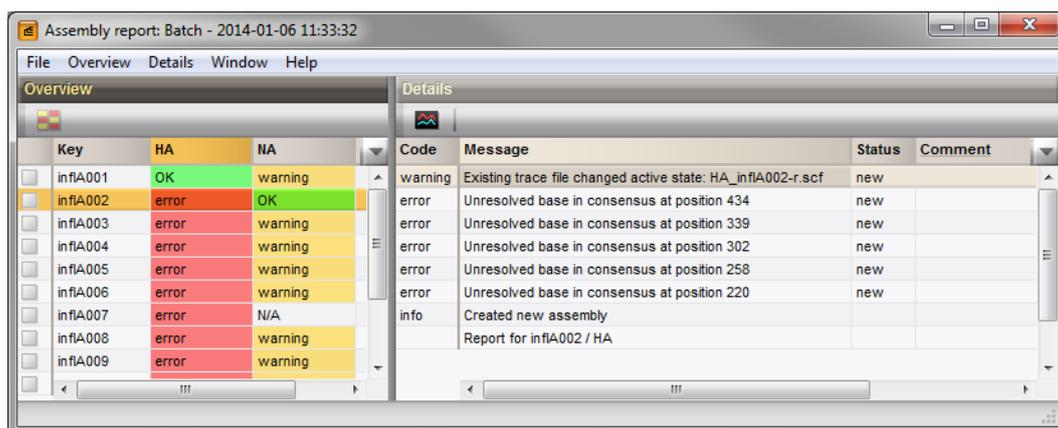

Figure 19: Details for the **inflA002/HA** assembly
1. Click a cell, e.g. **inflA002/HA** to update the *Details* panel on the right-hand side (see Figure 19).